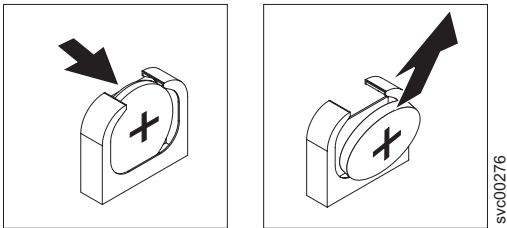

Figure 138. SAN Volume Controller 2145-8G4 CMOS battery holder
5. Remove the CMOS battery, as shown in Figure 138: